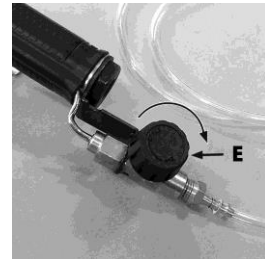

Fig. 5
6. Before connecting the water hose, turn the water flow regulator (E) clockwise to the off position (Fig. 5).